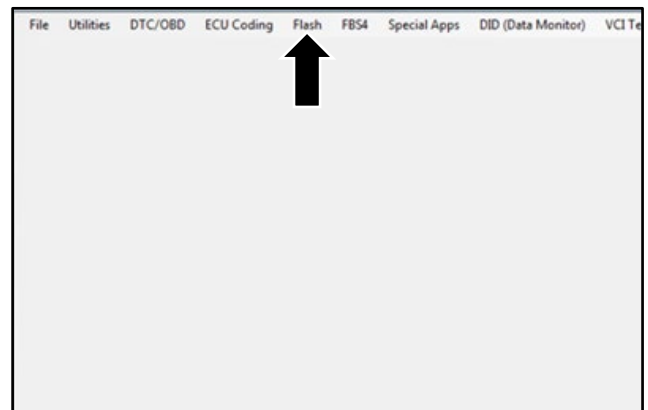

Figure 1
4. Select "Flash" (refer to Figure 1).